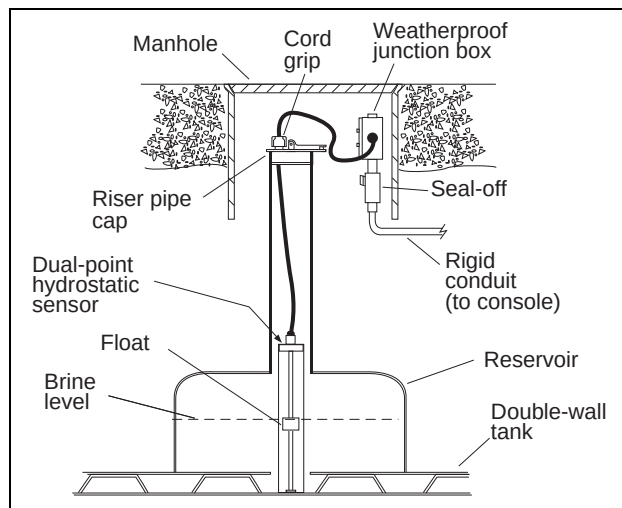

Fig. 12 Example Hydrostatic Dual-Point Sensor Installation
- Installation example (see Fig. 12)